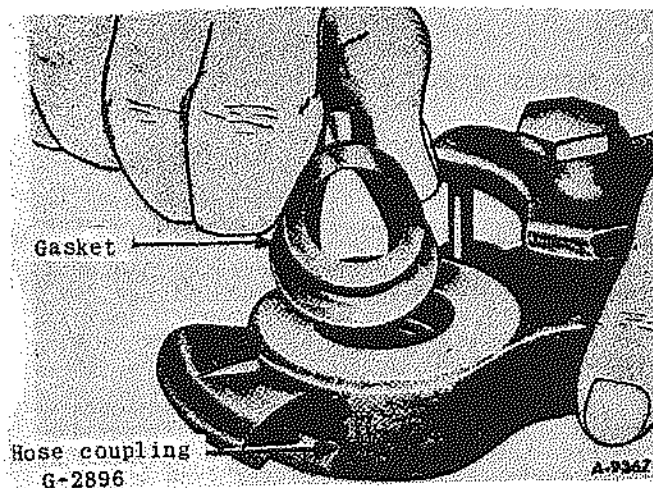

Fig. 5 - Trailer Brake Coupling
4. To install a new gasket, partially collapse it with the fingers (Fig. 5) and enter one side of the gasket flange in the groove in the coupling.